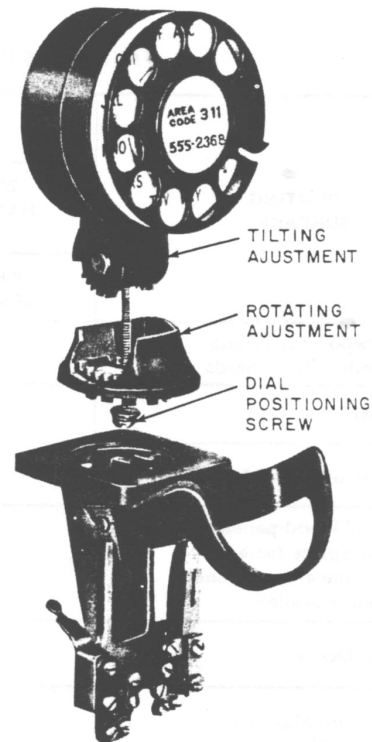

Fig. 3—Positioning Adjustments of 43A Dial Mounting
3.08 The 43A dial mounting used with G-type handset mounting are arranged so dial may be rotated. Dial is locked in one of 12 positions, 30-degree intervals, by means of notches in base of dial mounting. Notches engage two studs at the top of handset mounting. Dial may be rotated as follows (Fig. 3):
3.09 The 43A dial mounting may also be tilted as much as 45 degrees backward in 15 degree intervals. Dial is tilted as follows (Fig. 3):